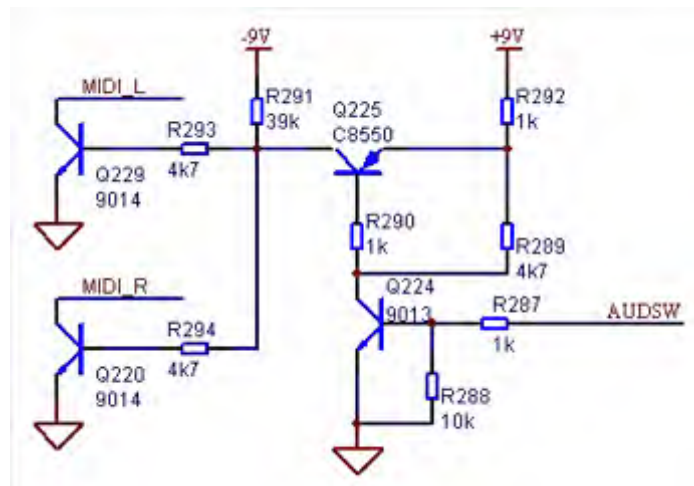

Figure 3.2.7.3 MIDI signal mute circuit diagram
(1) MIDI signal mute circuit is shown as the following figure 3.2.7.3: